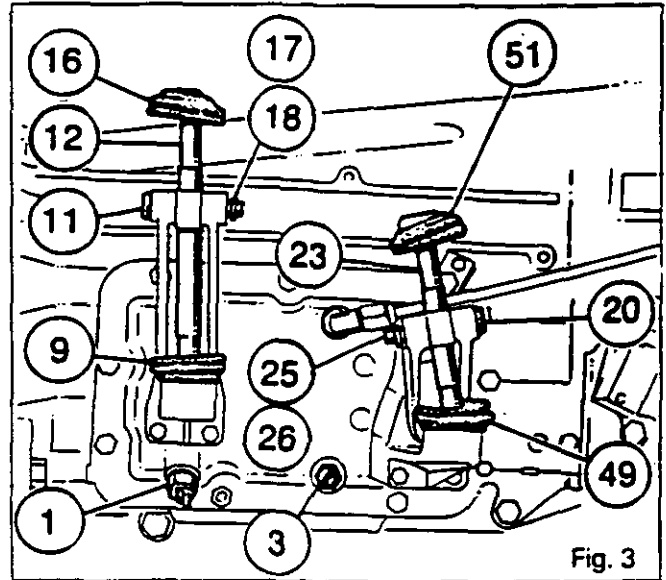
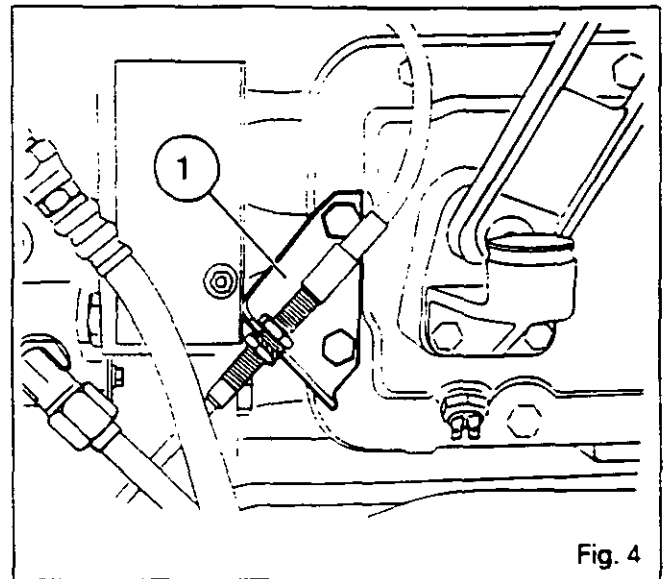
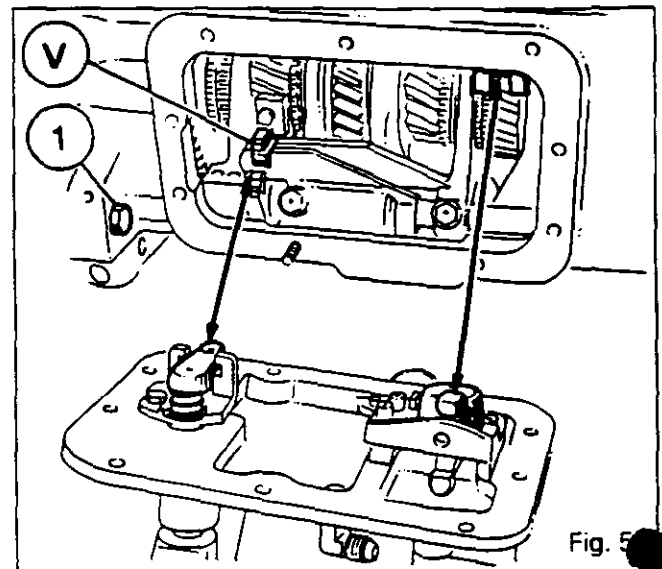

Fig. 3
Fig. 4
Fig. 5
8. Take out the cotter pins (18) and (25), washers (17) and (26). Remove pins (11) and (20). Lift the dust covers (49) (51) and (9) (16). Remove the reversing lever (23) and gear lever (12) and mark their positions (Fig. 3).
9. Disconnect the wiring harnesses from the switch (1) and temperature probe (3) (Fig. 3).
11. Remove the nut (57) and bolts (33) and mark the position of the earth wire lug (24). On creeper-type gearboxes, remove the control cable support bracket (1) (Fig. 4).
12. Remove the cover (56).
33. Clean the mating face on the cover (56).
34. Set the reversing selector, and the 1st, 2nd, 3rd and 4th gear forks to the neutral position. Move the lock V towards the opening of the selector cover (see Fig. 5).
38. Fit the earth wire lug (24), bolts (33) and nut (57). Tighten to a torque of 50 - 70 Nm.
**Note : For gearboxes equipped with creeper gears, fit the cable support (1) (Fig. 4).**
40. Reconnect the wiring harnesses to the Hare/Tortoise switch (1) and on the temperature probe (3).
41. Refit the reversing lever (23) and gear lever (12).
42. Reinstall pins (11) and (20). Reinstall the washers and pins. Position the dust covers (Fig. 3).